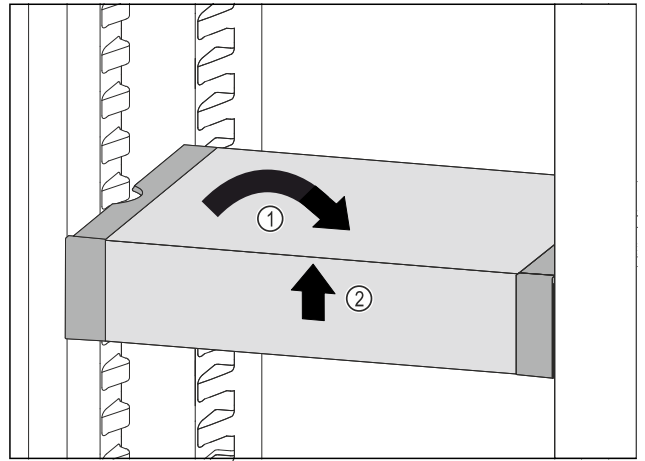

Fig. 113
- ▶ Set VarioSafe straight. *Fig. 113 (1)*
- ▶ Lift VarioSafe at the front. *Fig. 113 (2)*